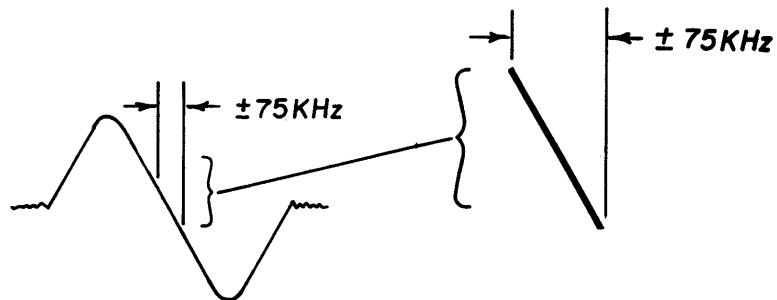

Figure 5.
4. Remove the demodulator probe from Pin 1 of IC 1 and attach a straight-through probe to R351 (3.3K), wired between I.F. board "out" and Multiplex Board "in", on the multiplex side. With generator output reduced to approximately 5 microvolts, adjust T204, bottom slug, for maximum gain and "straightness"; T204, top slug, for equal + and - swings about the horizontal center line of the display, Figure 5. Reduce deviation to \pm 75 KHz, centering sweep display. Increase generator output to 1000